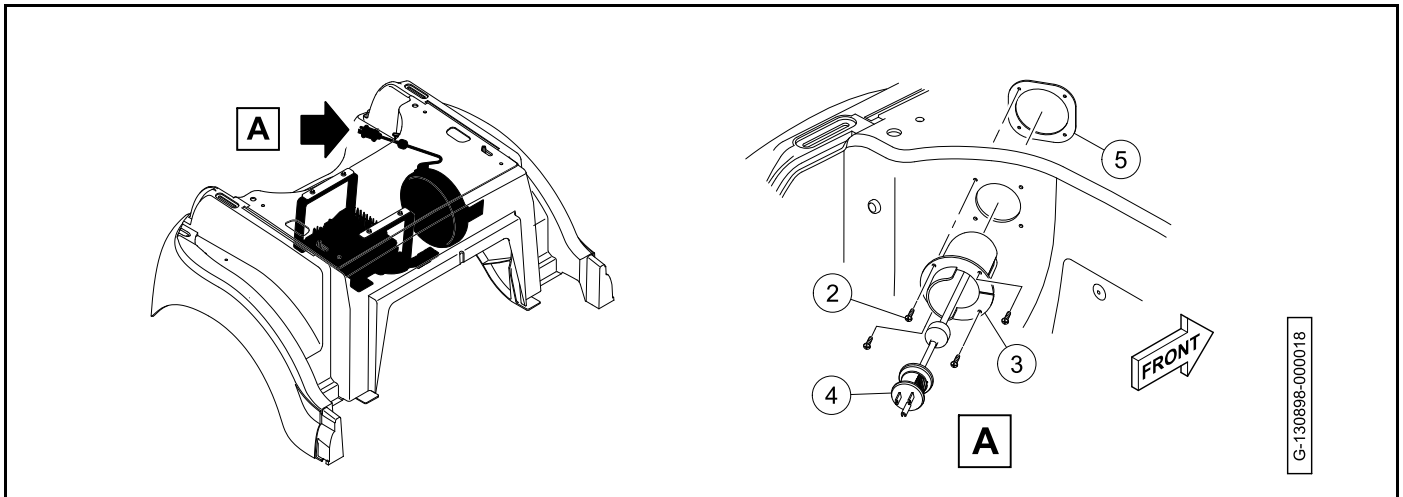

Figure 15-29 Cord Housing Installation
2. Install the bolts (8), washers (7), and nuts (6). Tighten the nuts to 88.5 lb·in (10 N·m).
3. Install the backing plate (5) on the AC cord (4) (Figure 15-29, Page 15-41).